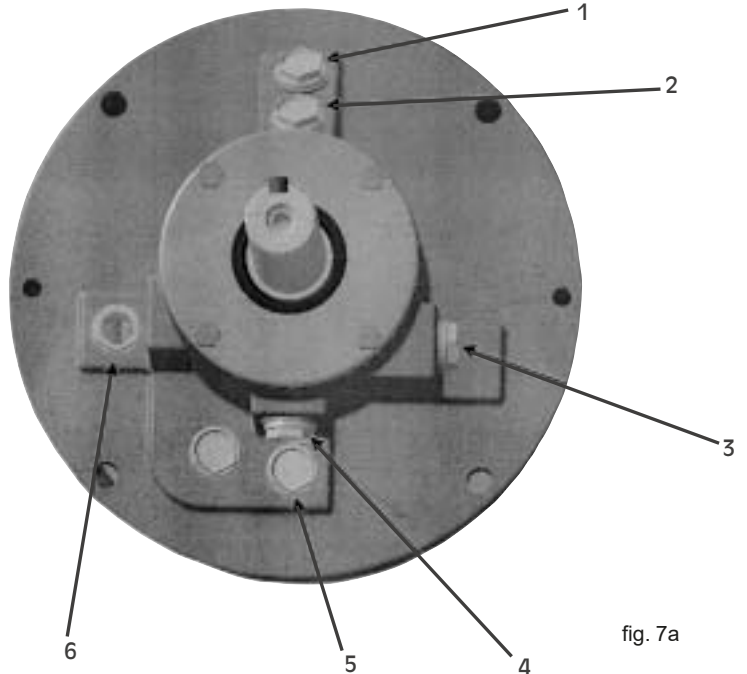

fig. 7a
Check the seal and bearing oil level by means of the oil level sight glasses on the support (fig. 7a)
- Drain the seal's oil by unscrewing drain plug 5 (fig. 7a).
- Unscrew the screws (47) and remove the rotating unit made up of the impeller (03), head (19), support (06) and shaft (07)
- Block the impeller (03), unscrew the screw (33) and remove the ogive piece (66) for series ST-R2, R3 and R8; for ST-R4 and R6, remove the Belleville washer (33.1).
- Remove the impeller (03) as described in section 13.2
- Unscrew the screws (57.1) securing the head (19)
- Drain the seal oil by unscrewing drain plug 5 (fig. 7a).
- Unscrew the screws (47) securing the mount (06)
- Remove the mount (06) complete with impeller and head from the pump casing (01)
- Drain the seal and bearing oil by unscrewing drain plugs 4 and 5 (fig. 7a)
- Remove the mount (06) from the pump casing (01) complete with impeller and head
- Remove the seal (25) as described in section 13.6
- Remove the bearing cover (08)
- Pull out the shaft (07) complete with bearings (58) and (59)